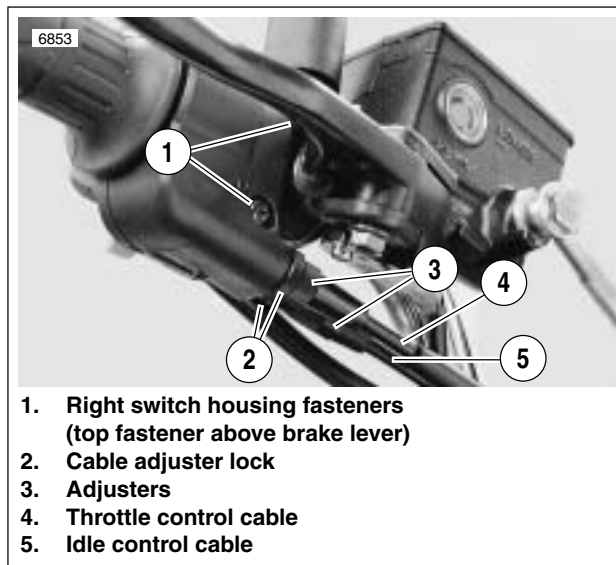
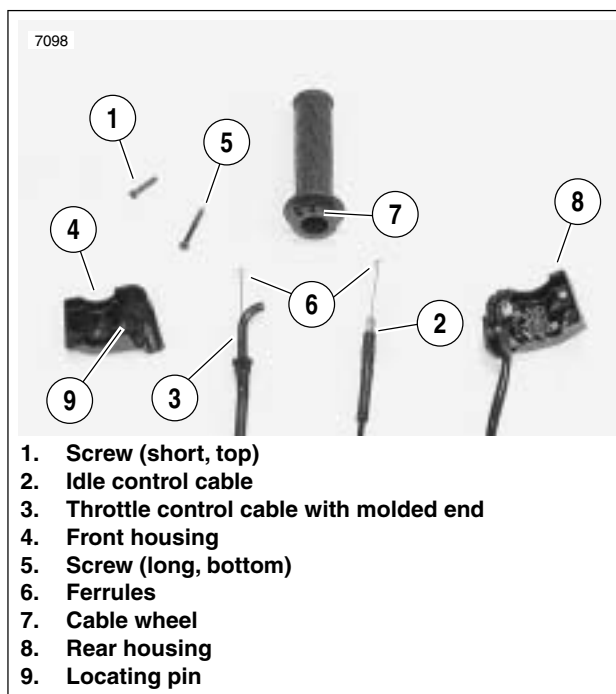

Figure 2-91. Throttle Control Cables
Figure 2-92. Cable Connections
1. See Figure 2-91. Loosen cable adjuster lock (thick disc) (3) on each cable.
2. Turn adjusters (3) in direction which will shorten cable housings to minimum length.
3. Remove fasteners (1) on right switch housing and separate housing from handlebar.
4. See Figure 2-92. Remove cables (2, 3) from notches in front housing (4).
5. Remove cables (2, 3) and ferrules (6) from cable wheel (7).
3. Install throttle grip and position ferrules (6) into cable wheel (7).
7. See Figure 2-91. Attach rear switch housing and position housings on right handlebar by engaging locating pin on front housing with hole in handlebar. Attach housings with two fasteners, installing longer fastener on bottom. Tighten to 25-33 **in-lbs** (3-4 Nm).